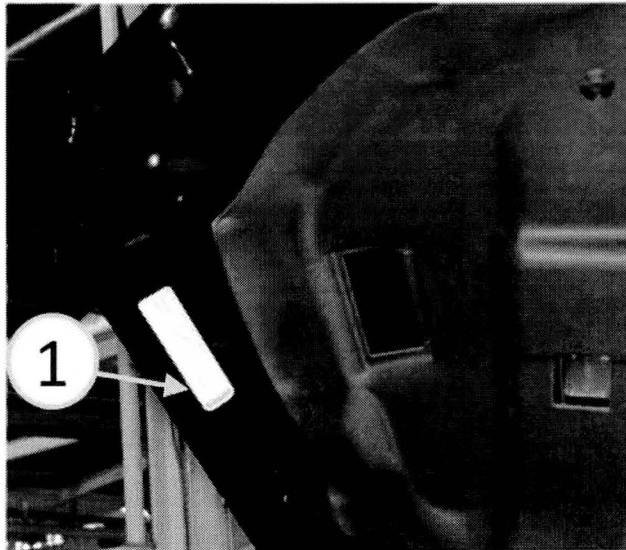

Fig. 1 VECI Label
2. Inspect vehicle for VECI label on underside of hood on right side (passenger side) of vehicle in location shown in (Fig. 1). Is a VECI label located in the identified location?